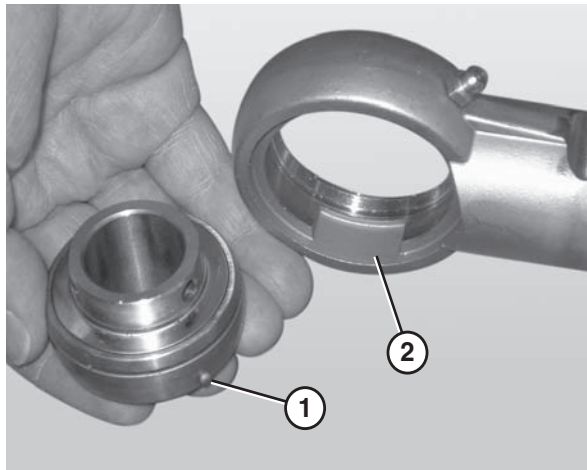

Figure 76
4. Remove the worn or damaged bearing (**Figure 76**).
When inserting the new bearing, make sure the anti-rotation notch (**Figure 76, item 1**) on the bearing lines up with the groove inside the housing (**Figure 76, item 2**).